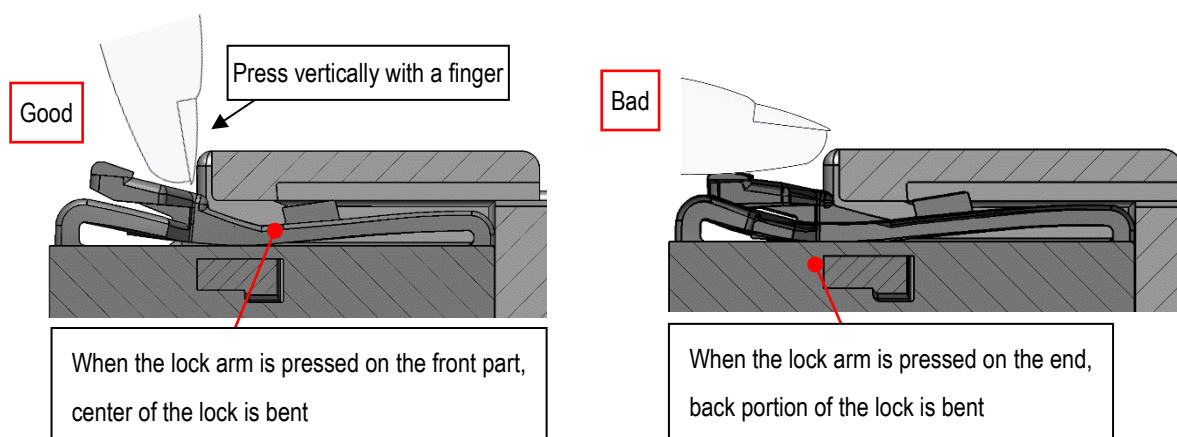

Fig. 47 Mechanism of the lock
- ② Hold and pull the female connector (not the wires), when disengaging the female connectors.
- ③ If there is any damage or deformation, do not use the damaged item. Replace the item with a new one.
- ④ Pressing down the end of the lock arm may not release the lock fully (See Fig. 47).
- ① Do not recommend to perform a conductivity test using the mated male connector.